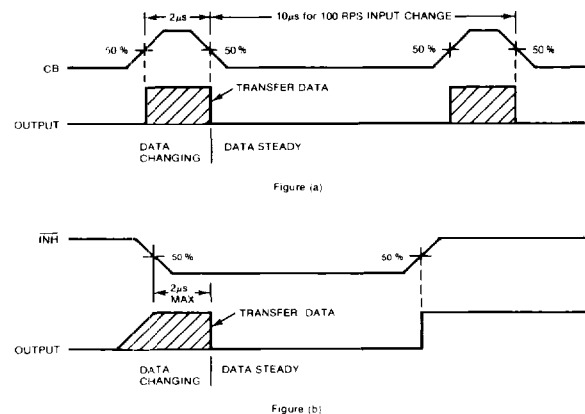

FIGURE 5 Timing Diagram for Data Transfer
Digital output data transfer from the 1510 converter is illustrated in timing diagram of figure 5. The digital output of the converter changes in steps of 1 LSB and for every LSB change, a converter busy (CB) pulse of $2 \mu\text{s}$ is generated. The output data change is initiated by the leading edge of the CB pulse. In order not to transfer data during transition, the converter busy (CB) or inhibit function (INH) should be used. There are two methods available for transferring data. One method is to monitor the CB output and transfer data at the trailing edge of the CB pulse (figure a). The preferred method is on command signal. Set the INH input to logic "low," wait for $2 \mu\text{s}$ and transfer data (figure b). The INH pin should be brought to logic "high" (or open) after data transfer, to allow the converter to keep tracking the input signal. If your application requires the converter to keep tracking even during inhibit, contact a Natel applications engineer.